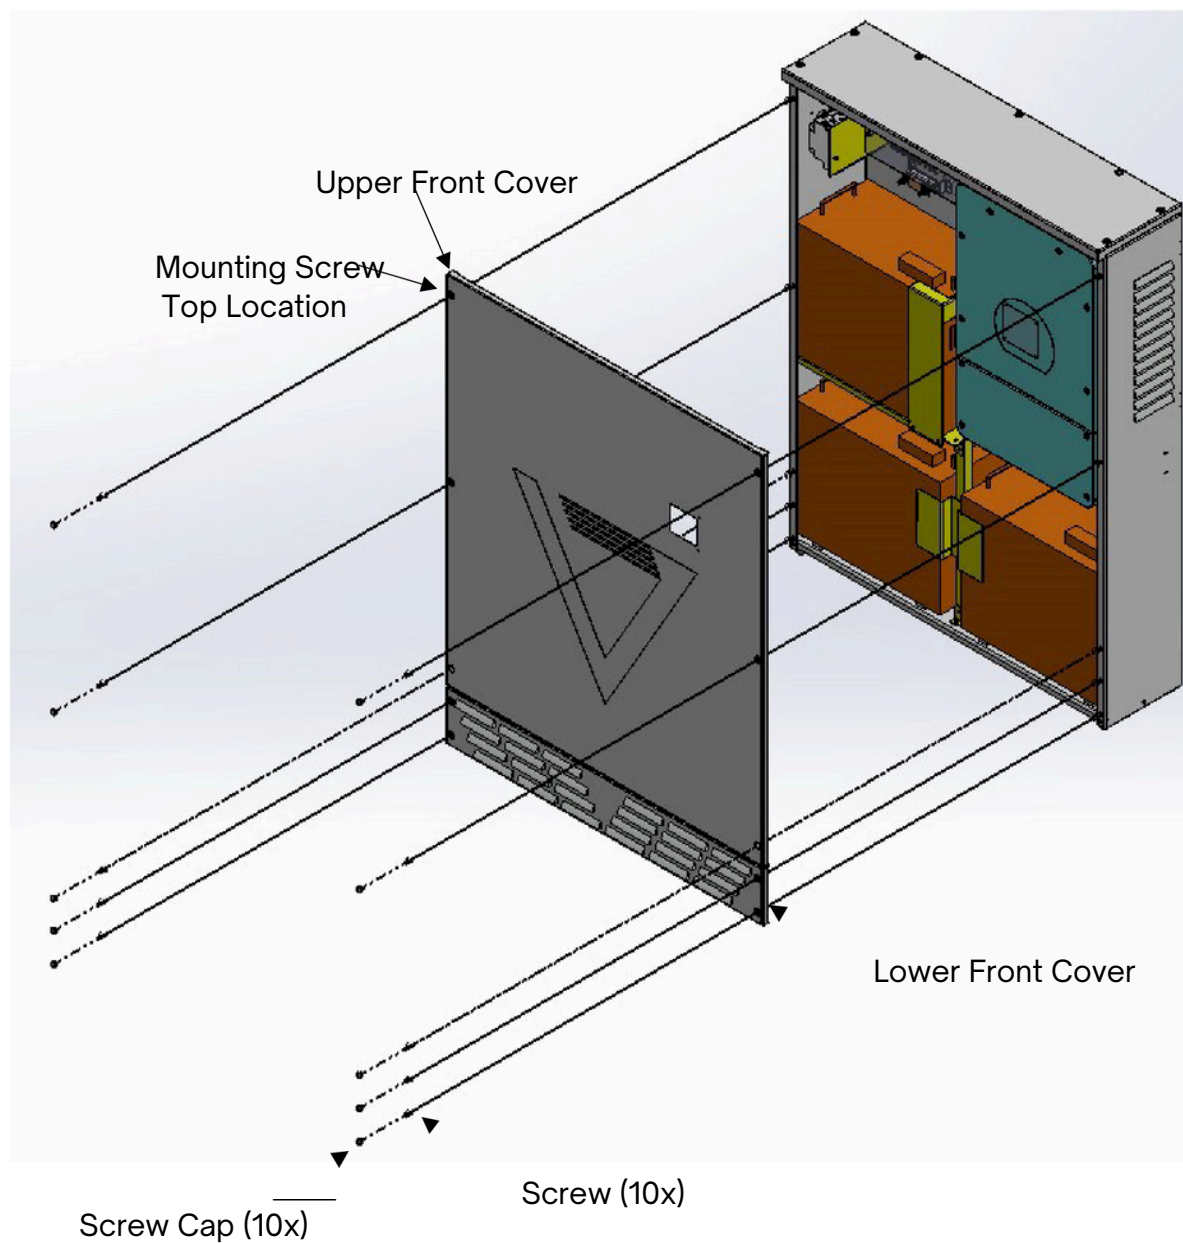

Figure 22
1. Install the lower front cover (see Figure 22).
2. Install the upper front cover by securing the mounting screws first on the top location, then on the bottom location and then affix the middle screws last. Be sure to place screw caps on each mounting location (see Figure 22).
3. Once all covers and mounting screws have been secured, place the white screw caps on each front mounting location (10 places as shown in Figure 22).